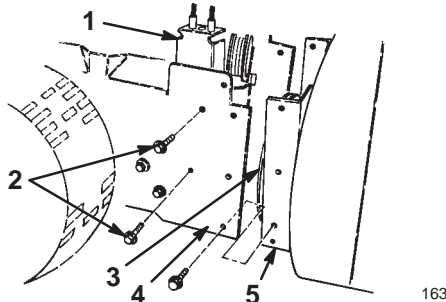

Figure 2
1. Remove the 2 flange-head bolts that secure the idler pulley assembly to the engine frame, and remove the idler pulley assembly (Fig. 2).
2. Align the holes in the auger/impeller housing with the holes in the engine frame (Fig. 2).
3. Route the auger/impeller drive belt around the impeller pulley (Fig. 2).
5. Install the idler pulley assembly, aligning the idler pulleys with the belts (Figs. 2 and 31).